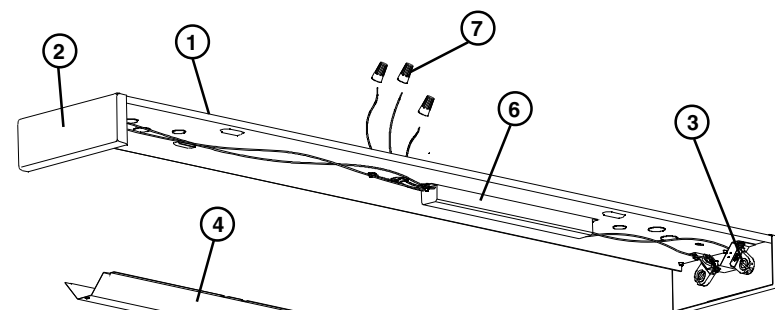

Figure 1
1. Remove fixture components and parts pack(s). Check that all parts are included. **See Figure 1.**